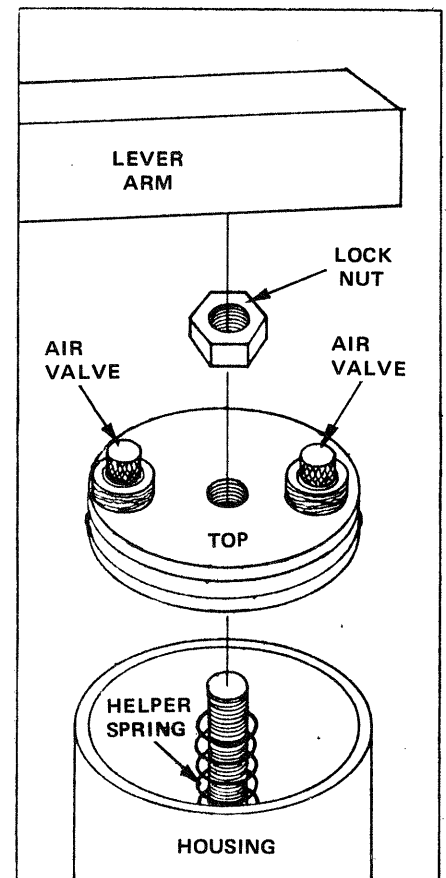

FIGURE 9-30 Dashpot disassembly.
K. Remove the Vorsetzer from the piano, disassemble the SUSTAIN Dashpot (see FIGURE 9-30), remove the Helper Spring, and install the Stronger Spring (PN 100-02B149-3) from the Hardware Kit, then proceed to Point L. See the CAUTION below.